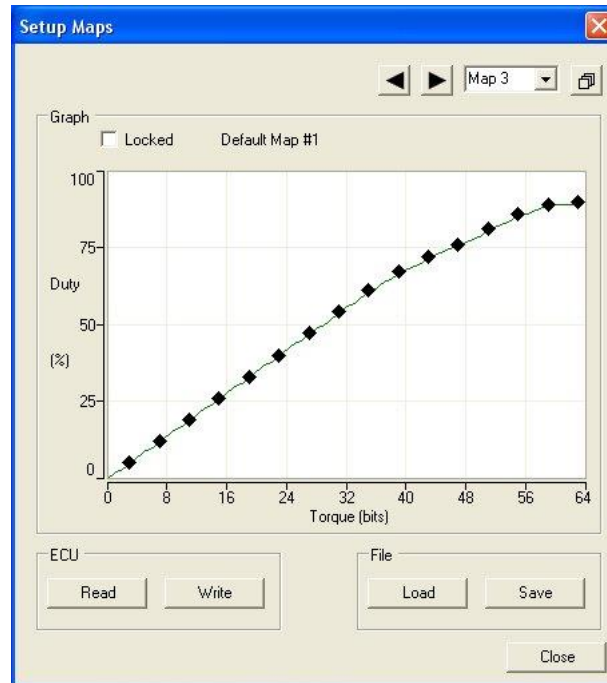

Figure 11 - Setup Maps Dialog (Map Edit)
- When the **Locked** checkbox is not checked edit markers are displayed at 16 places along the map (Figure 11). Use the mouse to drag each of the markers until the required map shape is obtained. Note that each marker is constrained by the markers either side of it.